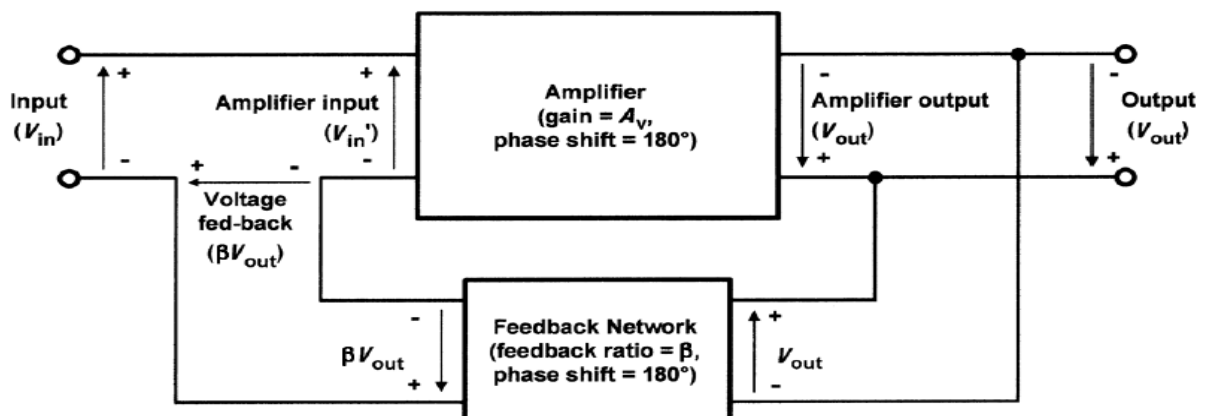

Fig. 1.18: Amplifier with negative feedback applied
- Fig. 1.18 shows the block diagram of an amplifier stage with negative feedback applied.